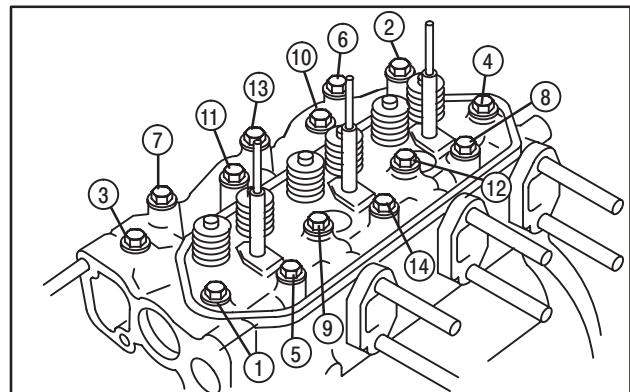

Fig. 8 – Loosen Cylinder Head Bolts
4. Remove cylinder head assembly, Fig. 8.